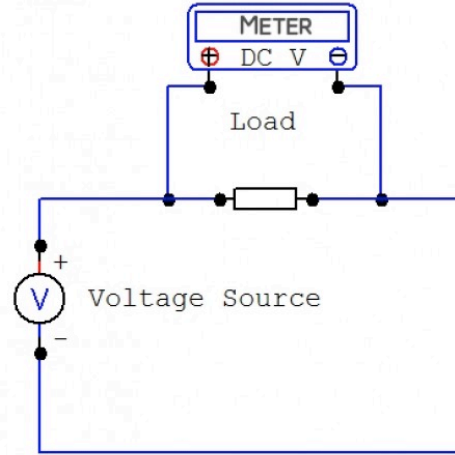

Figure 3-2 **Multimeter testing current**
5) Use remaining time to let the students explore hooking up the panels to different small lights, LEDs, motors, fans, voltmeters, ammeters, multimeters, etc. You will need a sunny window, the outdoors, or some bright lights. A shop light works great. This might also be a good time to reinforce measuring current (milliamps) to see how much current different components such as lights, motors, or resistors require. Show students to first set up the simple circuit then disconnect and insert the digital multimeter in series with the component in question. See Figure 3-2. As a precaution for the DVMs you can set the dial to current 10A and switch the red wire lead to the 10 Amp hole.